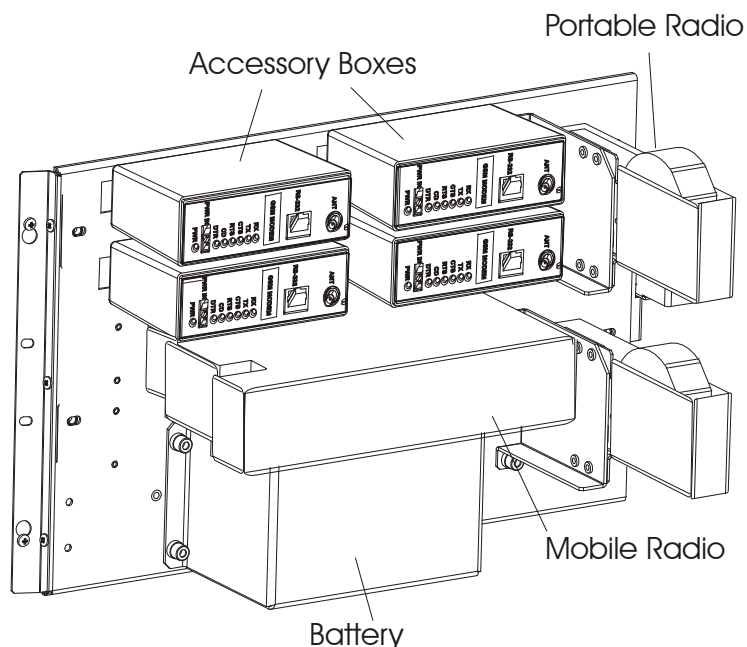

Figure 2-9 Installation of ACE3600 RTU 19" Rack Accessories - General View
- 6) From the standard rack unit, remove the two modules from the leftmost slots and the two modules from the rightmost slots. For the 19" accessories metal chassis, no accessories need to be removed. (See Figure 2-9.)